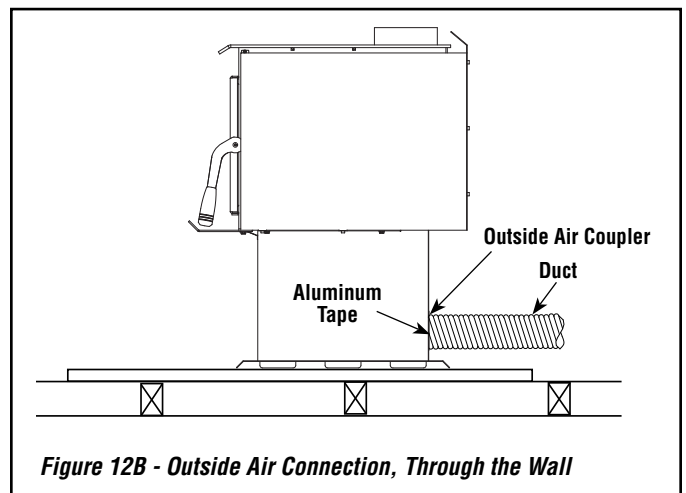

Figure 12B - Outside Air Connection, Through the Wall
- b) The air intake register must not be installed more than ten (10) feet (3050 mm) above the base of the stove.
- Make a 4-1/4" (110 mm) hole in the outside wall of the house at the chosen location. From outside, place the outside air register in the hole (open side down) and fasten the register to the wall, with screws as shown (see **Figures 12B and 13**).